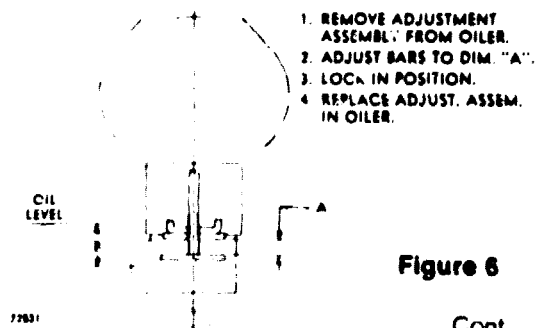

Figure 6
- a. Lubrication—Pump bearings are normally oil lubricated. (THE BEARINGS ARE NOT LUBRICATED AT THE FACTORY.) These pumps are supplied with an oiler which maintains a constant oil level in the bearing frame. Locate oiler as shown on the outline drawings supplied for the unit. See Fig. 6 for correct adjustment of oiler.